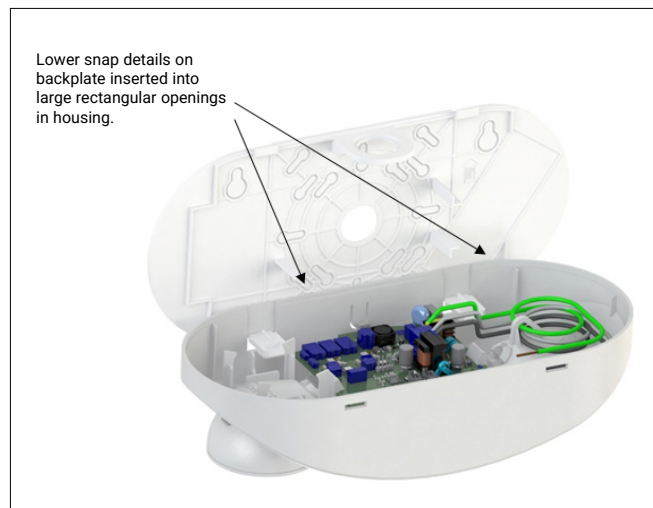

Figure 3
4. Hang the housing assembly from the backplate using the large bottom snap details on the backplate and the large rectangular openings in the bottom surface of the housing (see Figure 3).
4. Assemble pendant mount components to the opening in the top tab on the backplate (see Figure 3).
6. Hang the housing assembly from the backplate using the large bottom snap details on the backplate and the large rectangular openings in the bottom surface of the housing (see Figure 3).
7. Hang the housing assembly from the backplate using the large bottom snap details on the backplate and the large rectangular openings in the bottom surface of the housing (see Figure 3).